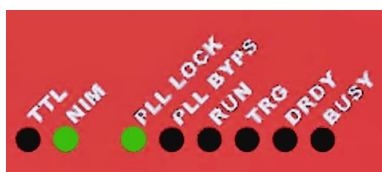

Fig. 12.1: Front panel LEDs status at power-on
- Only NIM and PLL LOCK LEDs must stay on (see **Fig. 12.1**).